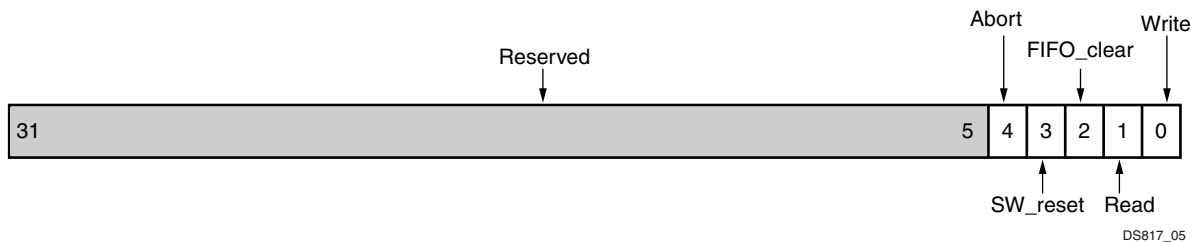

Figure 5: Control Register (CR)
The Control Register (CR) shown in Figure 5 is a 32-bit write register that determines the direction of the data transfer. It controls whether a configuration or read back takes place. Writing to this register initiates the transfer. The bit definitions for the register are shown in Table 8. The offset and accessibility of this register from the C\_BASEADDR value are shown in Table 4.